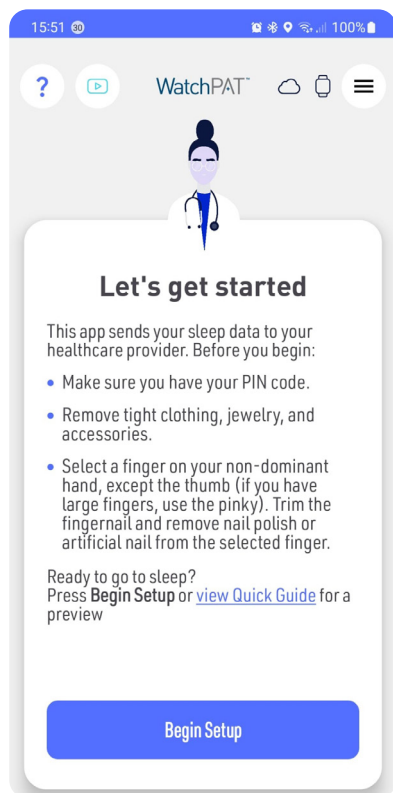

Figure 2 – Application Screen
2. The WatchPAT Application is a proprietary mobile application that is available for download from the mobile application stores as marked on the product's package. A typical Application screen is displayed in Figure 2 – Application Screen.